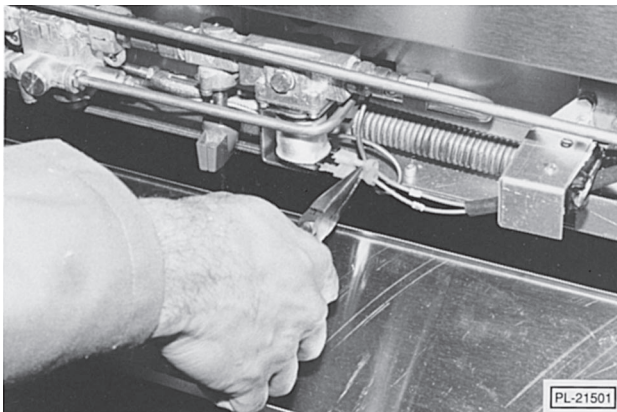

Fig. 71
5. Disconnect solenoid wire leads (Fig. 71).